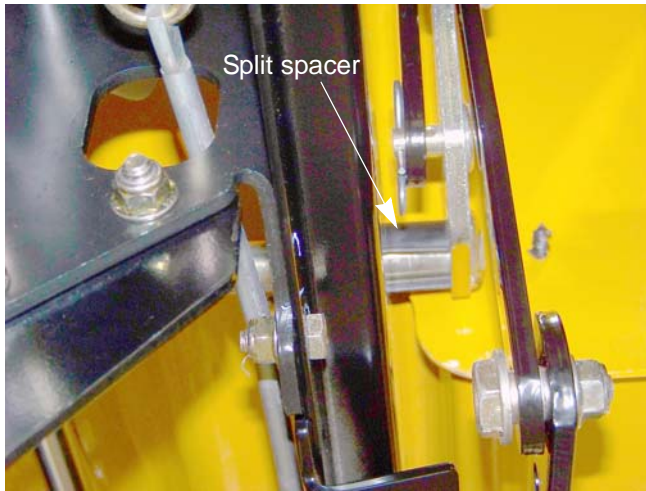

Figure 8.26
2. Remove one of the split spacers from the deck lift shaft. See Figure 8.26.